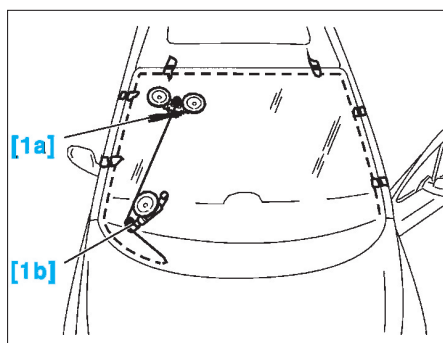

FIG. 123
- Fixer l'outil [1b] (Fig.123).